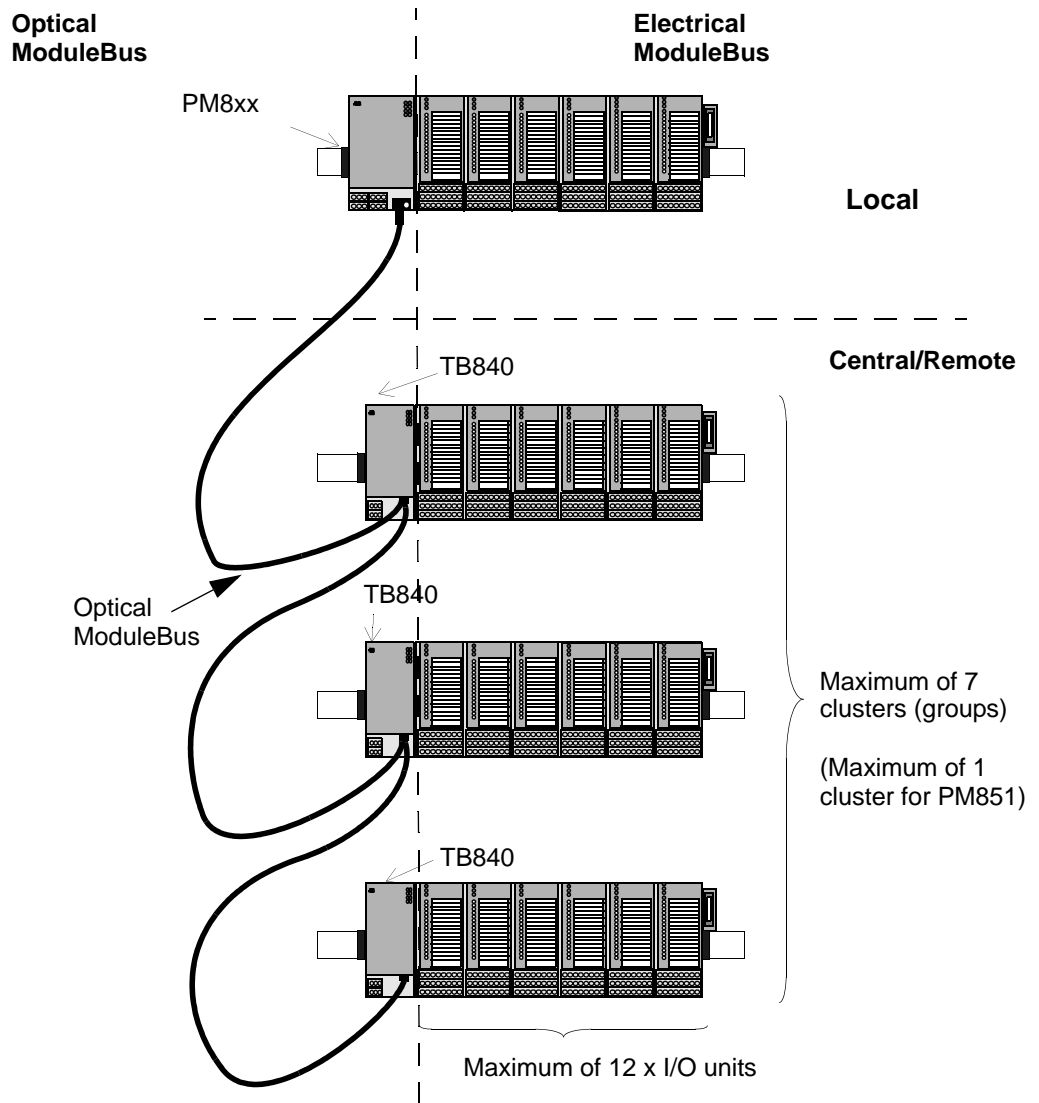

Figure 3.2: Electrical and Optical ModuleBus Configuration
- Electrical ModuleBus, (see Figure 3.2 on page 152) – 1 cluster (group), with a maximum of 12 S800 I/O units connected.
- Optical ModuleBus (see Figure 3.2 on page 152) – 7 clusters (groups), with maximum $7 \times 12 = 84$ S800 I/O units connected.